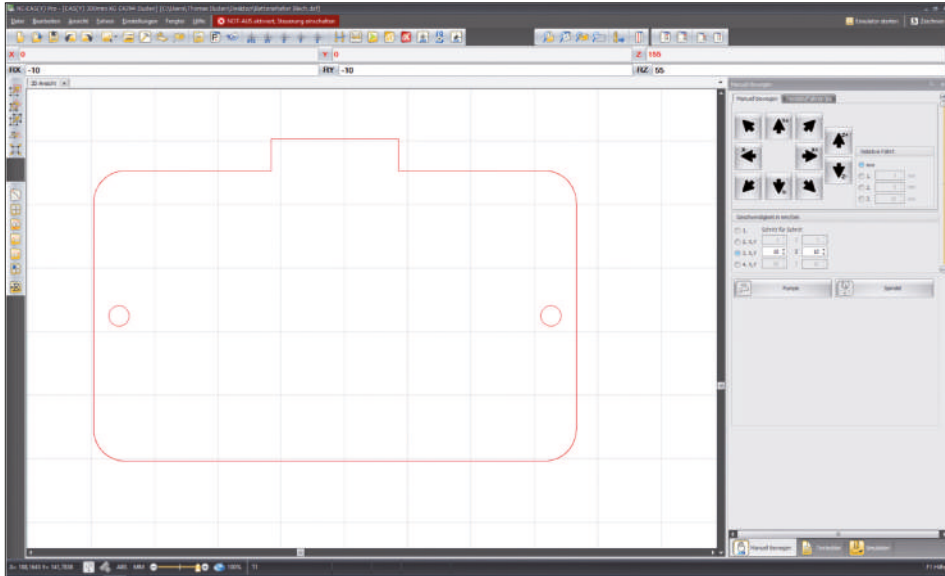

Figure 5-31
38. The import to NC EAS(Y) works straightforward (Figure 5-31), which is running on a Windows® platform. The precision of the data is very good, which has been verified by manufacturing several parts in the way described.